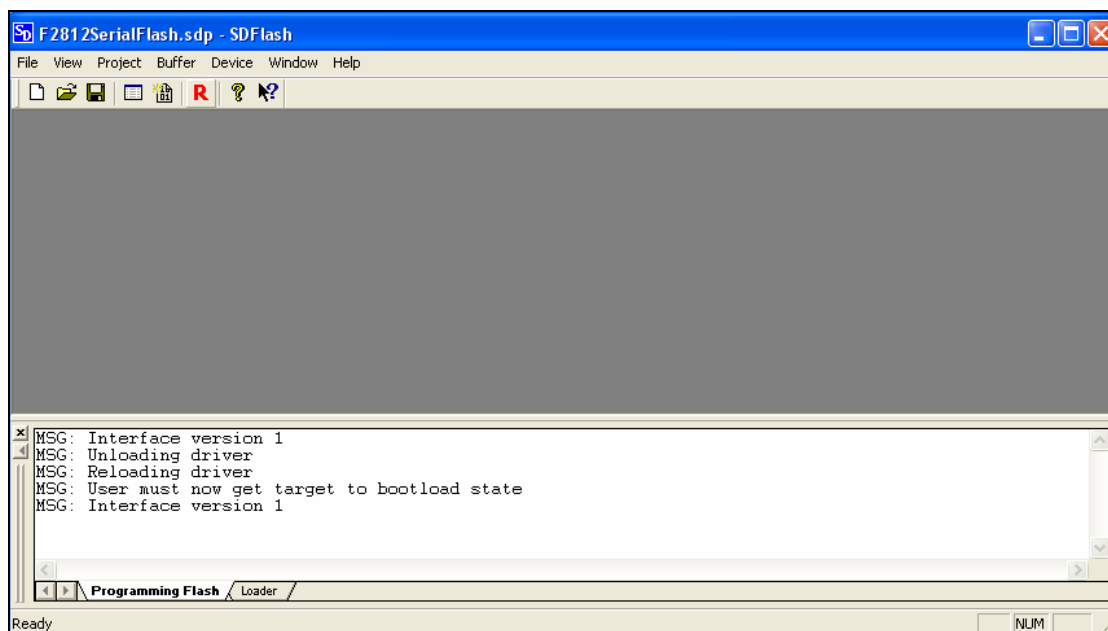

Figure 12: RESET after opening. It is required to reset before performing the flash upgrade
4. Select Reset icon **R** as shown in *Figure 12*.
4.1. The additional messages shown in *Figure 12* will be shown in the message board.